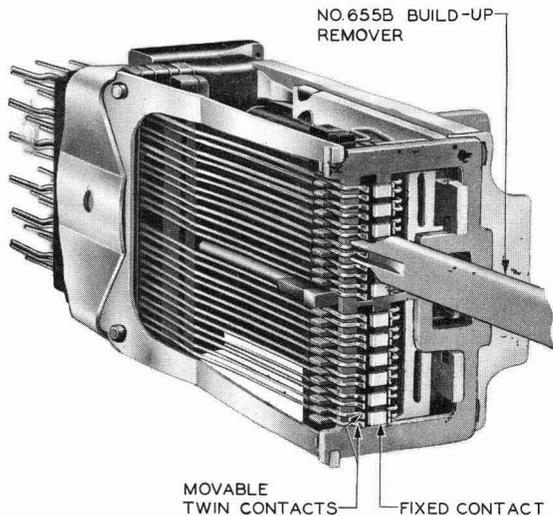

Fig. 38 – Method of Removing Buildups on Fixed Contacts of AF-, AG-, and AJ-type Relays (Wire Spring Type)
- (1) Insert the No. 655B build-up remover between the twin and fixed contacts with the twin contacts seated in the groove of the build-up remover as shown in Fig. 38. On normally closed contacts operate the relay manually, insert the build-up remover and release the relay. Exercise care when inserting the build-up remover to avoid